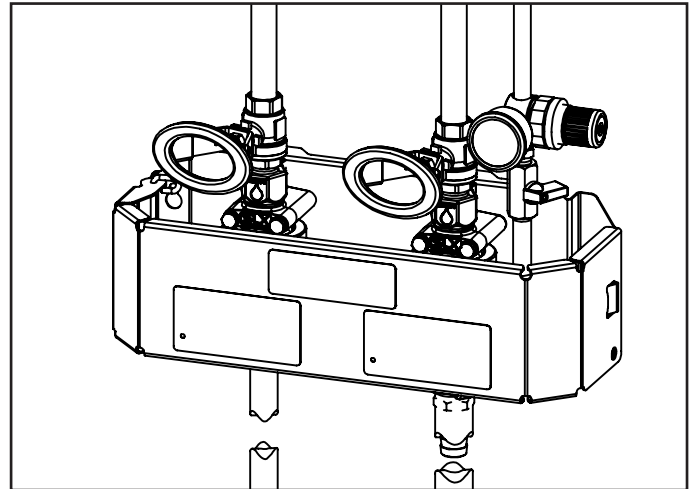

Fig. 5.1: Water and air supply ball valves closed.
1. Ensure foamers are properly connected and the pump and air supply valves are closed [Fig. 5.1]